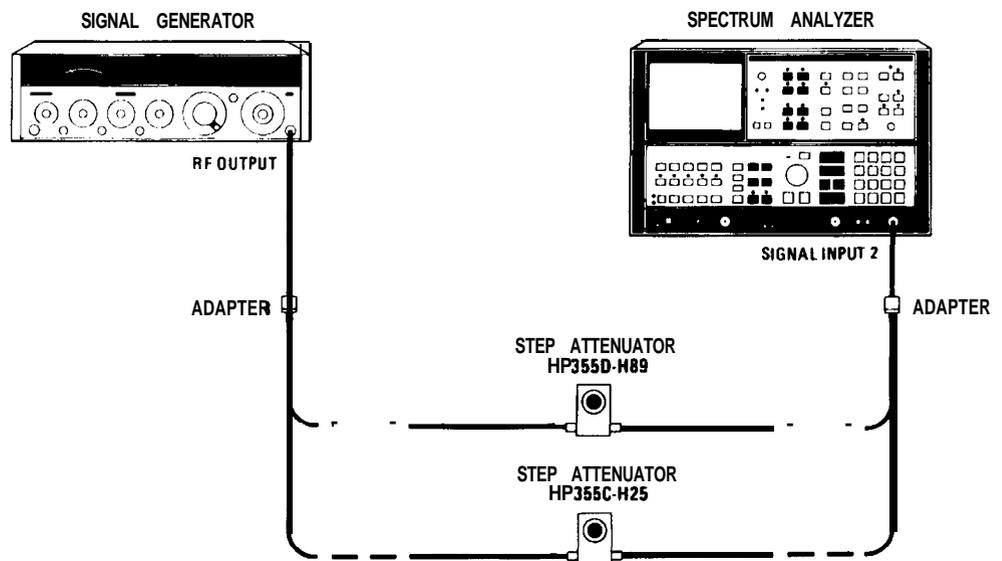

Figure 2-17. IF Gain Uncertainty **Test** Setup
6. Connect the equipment as shown in Figure 2-17.